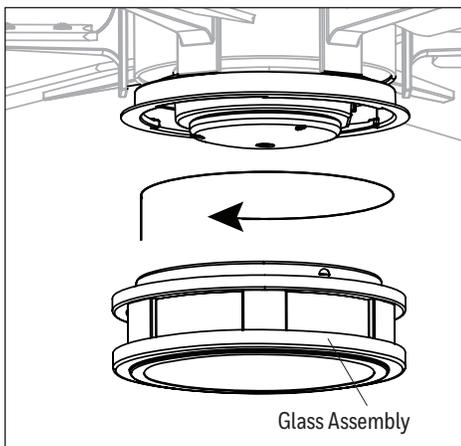

Figure 4.7
7. Lift the glass assembly into the light kit and twist in a clockwise direction to secure (Figure 4.7). **Note:** Remove the rubber shipping blocks from the glass assembly. **CAUTION:** Avoid cross-threading the glass during installation. Improper installation could cause the glass bowl to be difficult to remove or fall, which could cause serious injury.